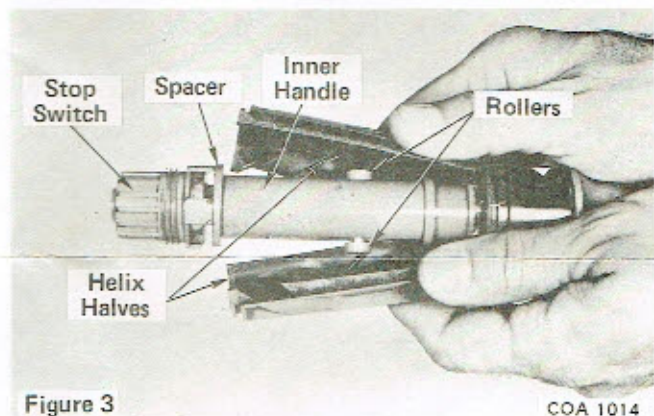

Figure 3
5. Lubricate end of roller pin, rollers and helix grooves with OMC Molly Lube (P/N173250). Place rollers on ends of roller pin. See Figure 3.